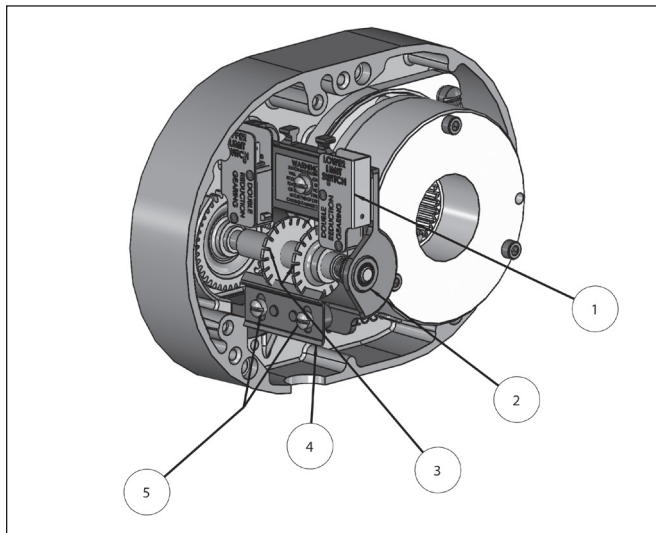

Figure 17. Limit Switches, Models B-F
4. Refer to Figure 17 and 19 and assemble the limit switch guide plate to the limit switch bracket. Secure using the 2 screws.